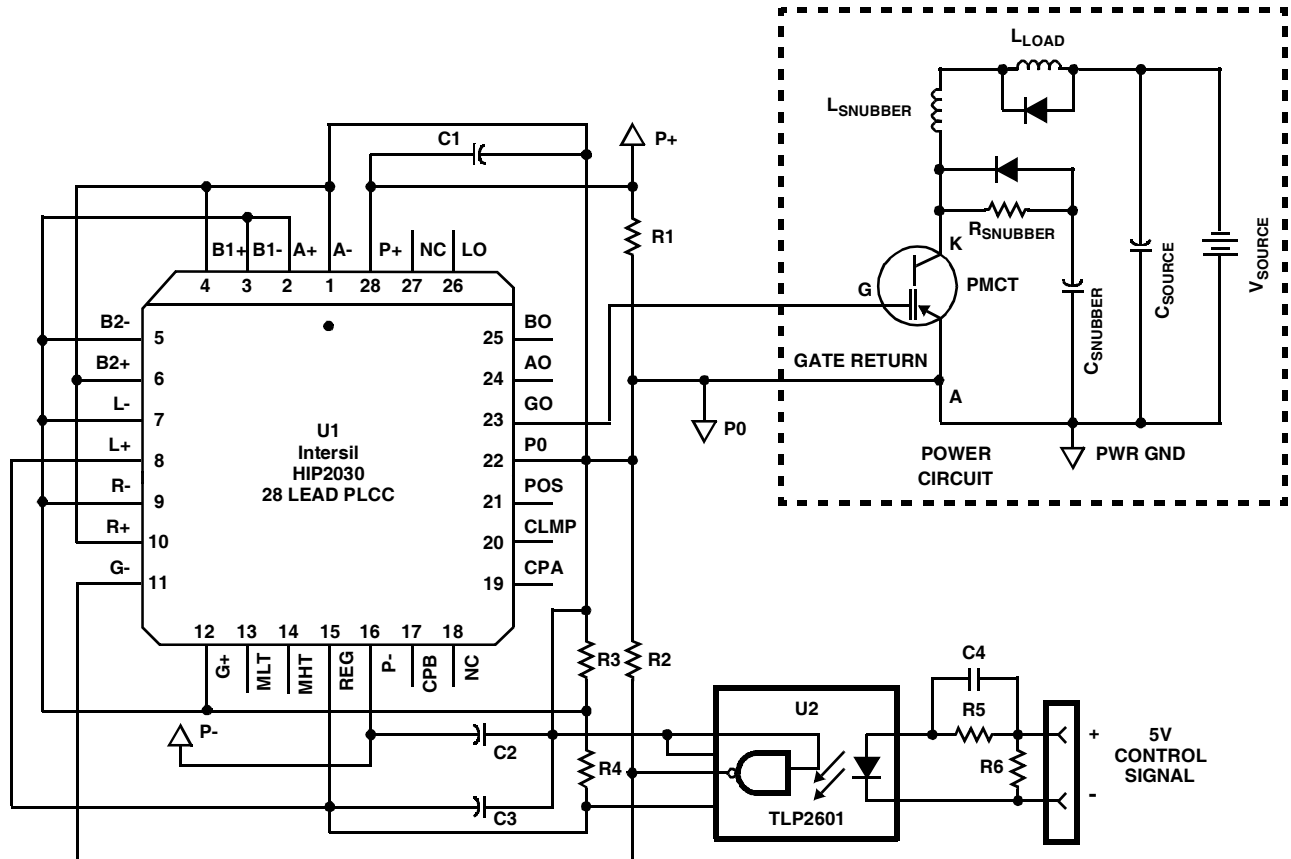

FIGURE 3. INTERSIL PHOTO-COUPLED ISOLATED GATE DRIVE
The **Intersil Photo-Coupled Isolated Gate Drive (HPCIGD)** circuit, illustrated in Figure 3, contains four subcircuits: a Single Supply DC bias, a Regulated voltage divider reference, a Local Energy Source Capacitance, and a Photo-Couple Receiver.
The **Single Supply DC Bias Circuit**, shown in Figure 3, consists of a single external dropping resistor (R1) connected between pins P+ (U1-28) and P0 (U1-22). When an input voltage of 30V is applied across pins P+ and P- (U1-16), R1 forms a resistive divider network with the input impedance located between pins P0 and P- (RVP0). This allows the circuit designer to adjust the value of R1 to obtain a desired bias voltage between pins P0 and P- (VP0.). The value of RVP0 can be calculated by evaluating the equivalent Quiescent Input Impedance (RQ) and the 5V reference impedance (RR) as parallel resistances. The values for R1, RQ, RR, and RVP0 can be determined by using Equations 1(A, B, C, D) as shown in Appendix A, Exercise 1.1.
Q: How do I calculate the value of the series dropping resistor R1, shown in Figure 3?